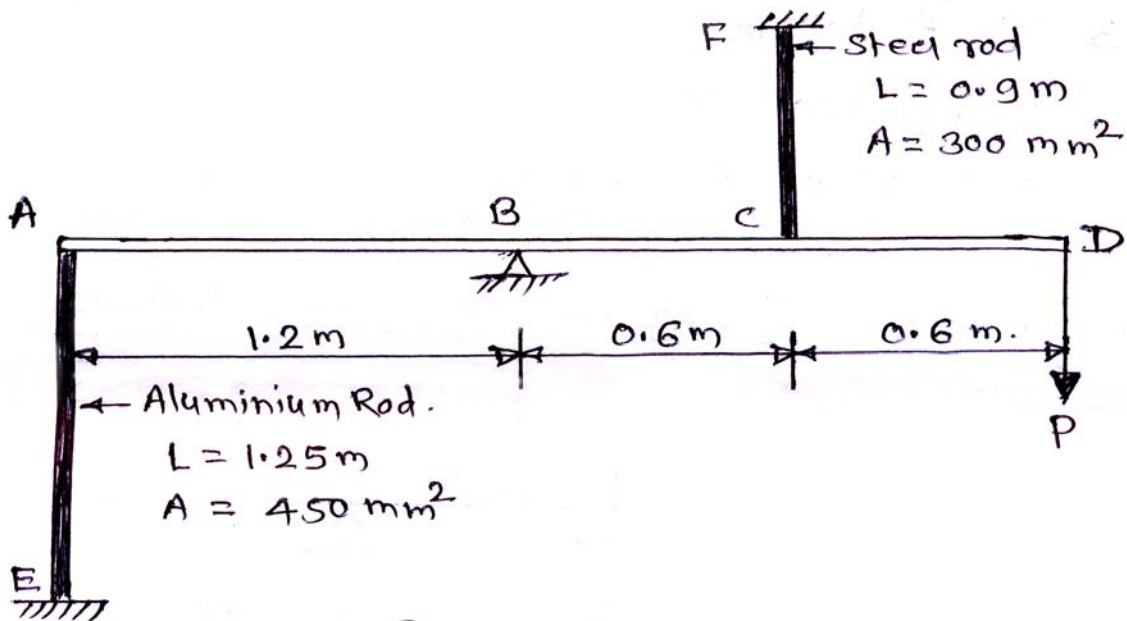

Fig. 2 (a)
b) As shown in Fig. 2(b), a composite member is made by connecting a steel bar and a copper bar rigidly fixed at their ends. Find the maximum value of stresses in steel and copper when combination is subjected to an axial pull of 14.4 kN.